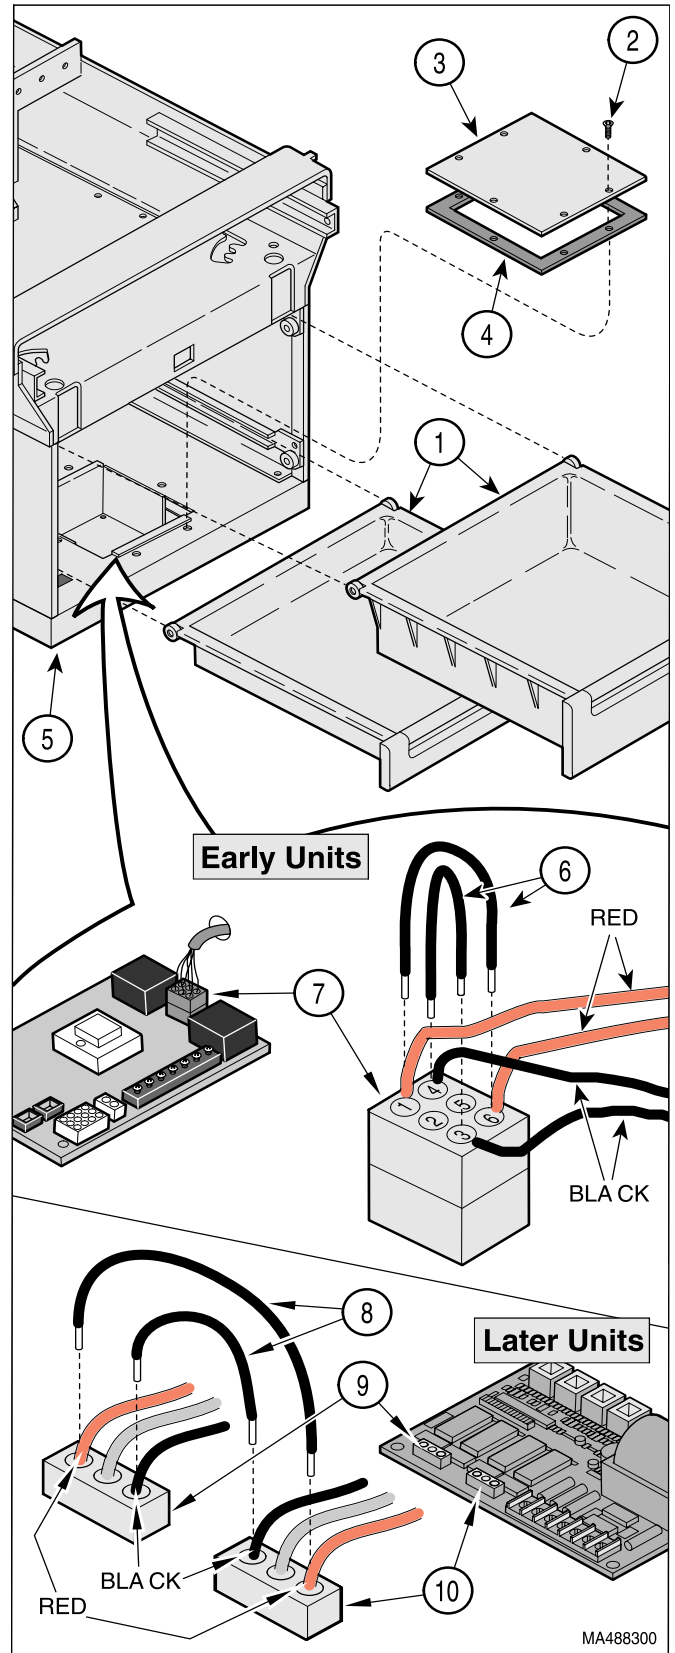

Figure 4-36. Bypass of Malfunctioning Base Capacitor
- (1) Unplug table power cord from wall outlet.
- (2) Remove two drawers (1, Figure 4-36) from foot end of table.
- (3) Remove six screws (2), cover plate (3), and gasket (4) from upper base weldment (5).